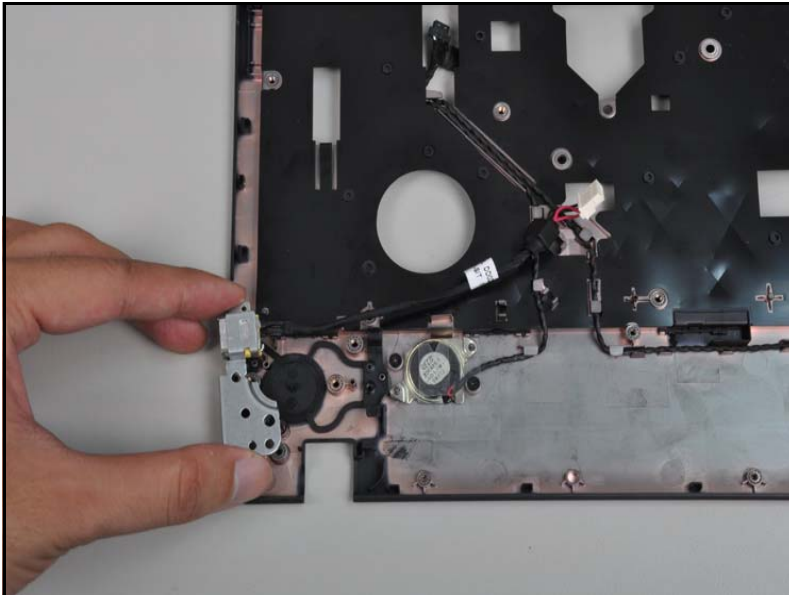

Figure 3-37. DC-in jack removal
1. Remove the DC-in jack by lifting upwards from the lower case (Figure 3-37).
2. Place the DC-in jack onto the lower case and press down to secure it. Refer to Figure 3-37.